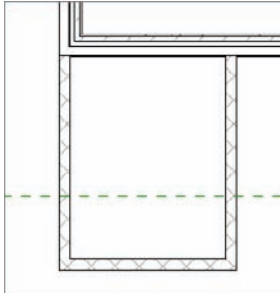

FIGURE 2.22 The elevator shaft begins to take shape.
8. Click Modify. You should have three walls that look like Figure 2.22.